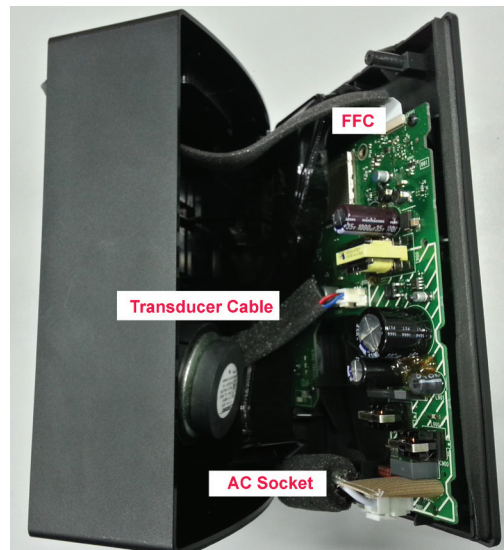

Figure 21. Cabinet, Side
5.4 Figure 21. Once rear panel is released, the main PCB will be exposed.